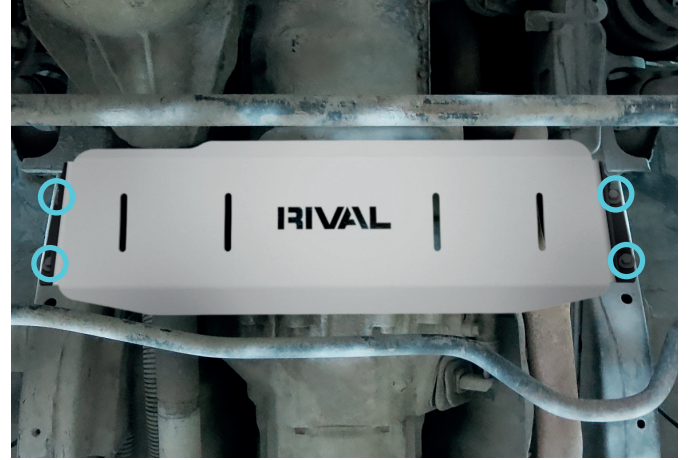

Fig. 2
2. Install skid plate with mounting brackets to vehicle using bolts M8x1.25x25 (item A) and washers M8 (item D) as shown in fig. 2.